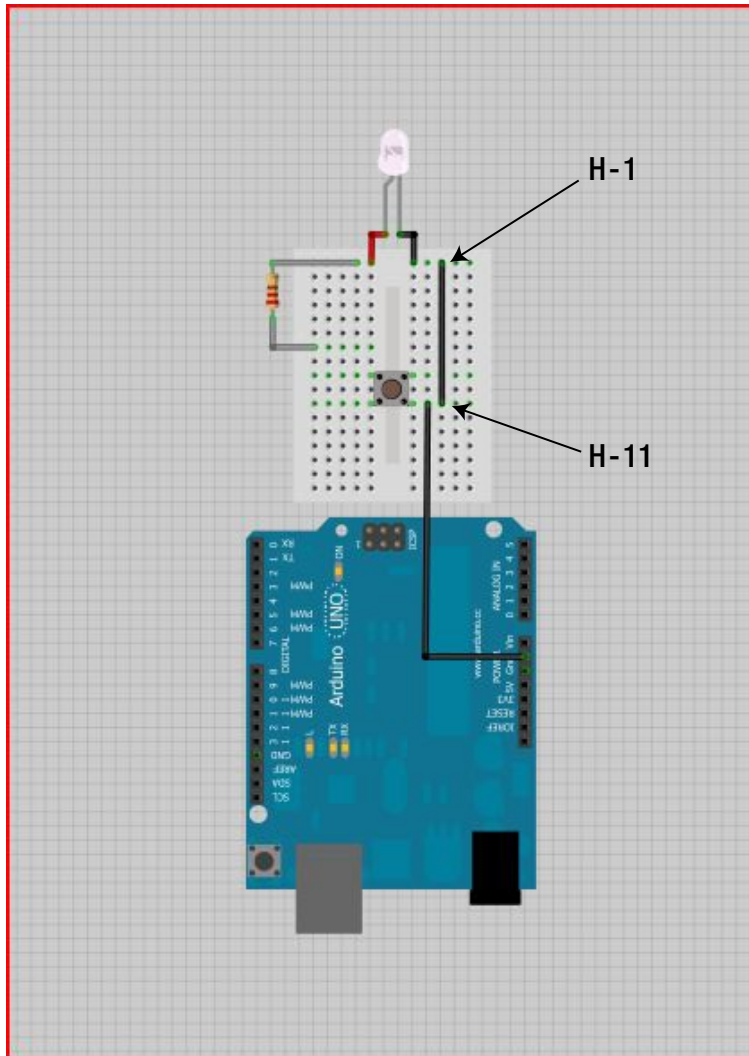

Figure 7-9. Attach ground from LED to ground on push button
6. Insert another jumper wire (we used green) from H-11 to H-1, the LED's shorter (Cathode) leg. Figure 7-9 illustrates this process.